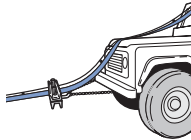

Fig 1.14
- 1.3.2.12 Secure the second clamp to the vehicle with suitable chains and reverse the vehicle to tension the riser. The excess riser should be passed over and behind the vehicle (Fig. 1.14).